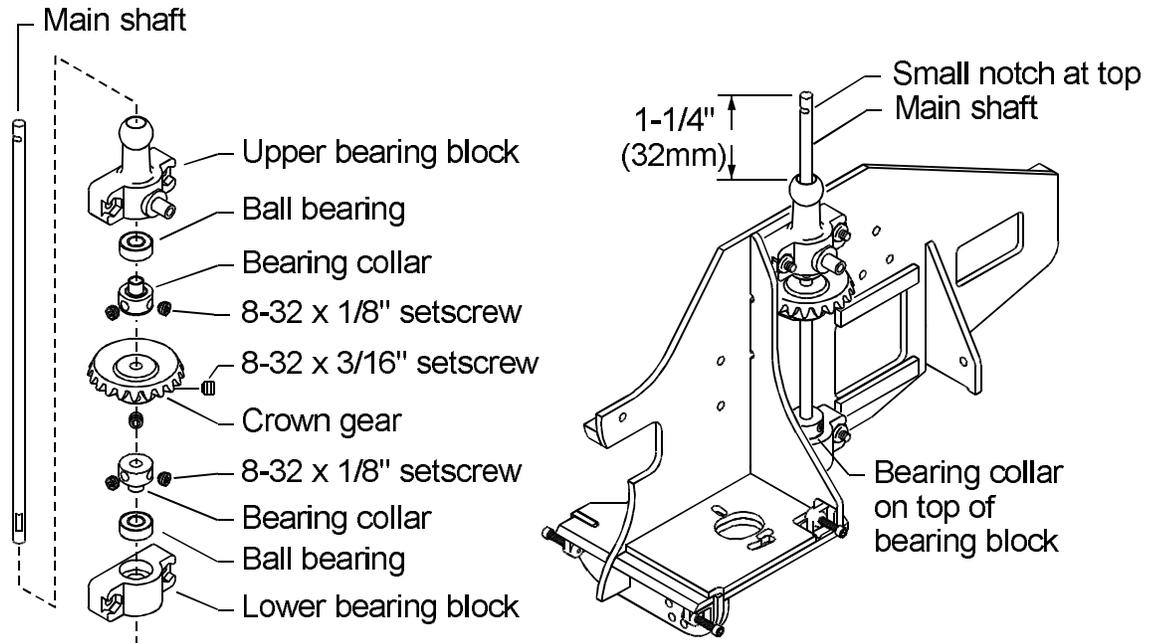

Figure 8-10.
- ❑ 19. Push a 5x11x4mm bearing firmly into each bearing block (see Fig. 8-10) until fully seated. It is sometimes easiest to place the bearing on a hard surface and push the bearing block down over the bearing.
- ❑ 21. Temporarily assemble the main shaft, bearing blocks, bearings, bearing collars and crown gear as illustrated in Fig. 8-10. Make sure the small deep notch is at the top of the shaft, and the long flat is at the bottom. Leave about 1-1/4" (32mm) of the shaft above the top of the upper bearing block.